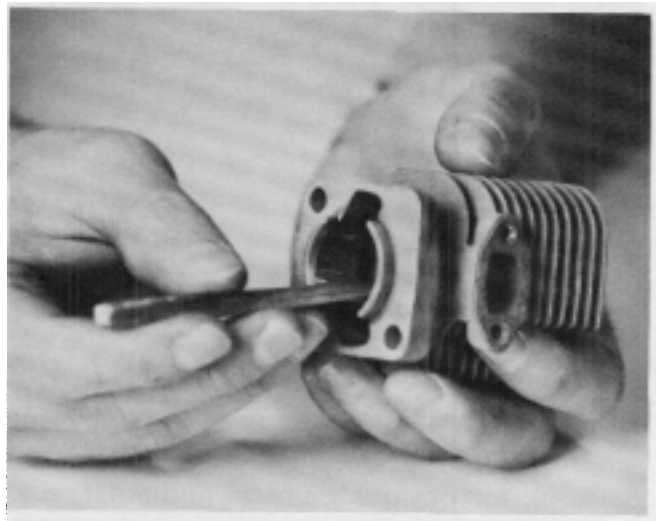

Figure 93
3. Remove carbon from cylinder combustion chamber, exhaust port and piston. Carbon can be removed with a non-marring scraper. Be careful not to damage the cylinder's chrome plated bore. See Fig. 93.